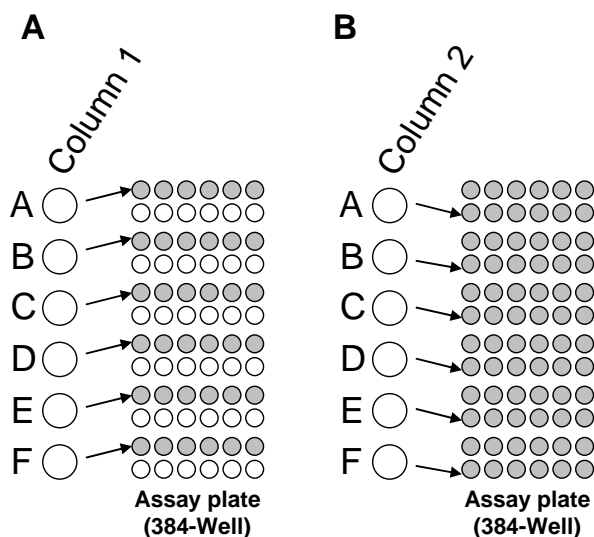

Figure 3. Transfer of tracer dilutions from 96-well to 384-well plate.
- Add 5 µL of each concentration of serially diluted tracer to six replicate assay wells in a 384-well plate (columns 1-6) as depicted in Figure 3.